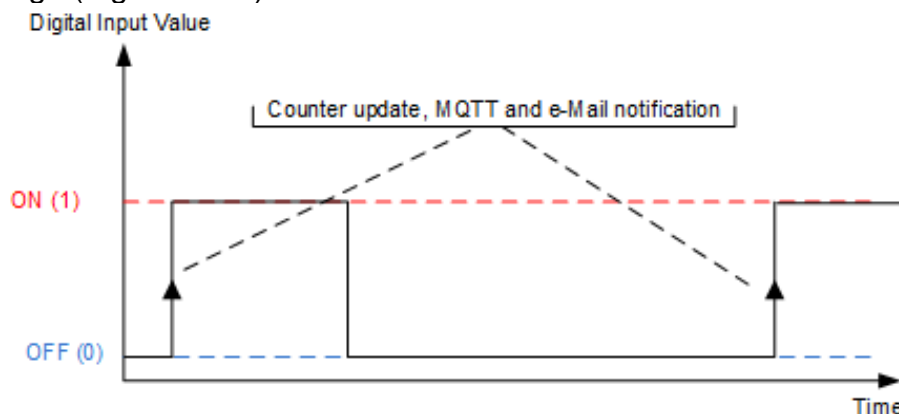

Figure 7.15. Counter update and notifications when **Edge** is set to "1 (On)"
- **1 (On)** – The counter is incremented on the rising edge (0 -> 1). With MQTT enabled and **MQTT Publish Mode=Edge Triggered** the rising edge triggers a notification message. The e-Mail (if enabled) is sent on rising edge (Figure. 7.15).